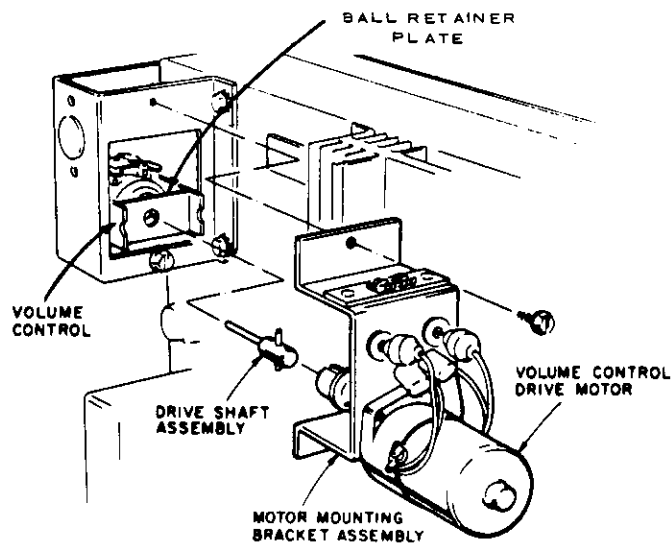

Figure 1. Drive Motor and Bracket Installation.
2. On the amplifier, remove the top screw and loosen the bottom screw on the front of the volume control bracket, see Figure 1.